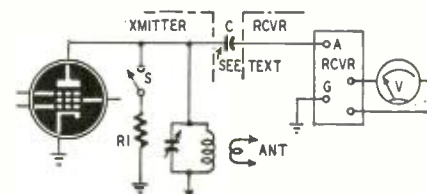

Fig. 1—Setup for radiationless tuning.
The circuit connections are shown in Fig. 1. The receiver is loosely coupled to the plate lead of the transmitter tank circuit by capacitor C, which consists of approximately 1 inch of insulated wire wound around the plate lead. The receiver is tuned to the operating frequency of the transmitter, and the static noise voltage picked up by the transmitter antenna is read on the output meter.
Correct antenna coupling is determined by adjusting the coupling controls until the received noise voltage, as indicated by the output meter, drops to about one-half its peak value when a resistor equal to the load resistance required by the transmitter output tube is connected from the plate of the transmitter output tube to ground. Resistor R1 in Fig. 1 is the load resistor used for this purpose. It is the 1/2-watt carbon resistor previously specified as required equipment.
3. Couple the receiver input to the plate circuit of the transmitter final amplifier tube as indicated in Fig. 3, a simplified form of Fig. 1. (As previously stated, capacitor C, the coupling unit, consists of approximately 1 inch of insulated wire wrapped around the plate lead. This is quite sufficient for the frequency ranges used for amateur communication. The lead from C to the receiver antenna terminal should be a shielded wire not over 4 or 5 feet long. The shield must be grounded.)